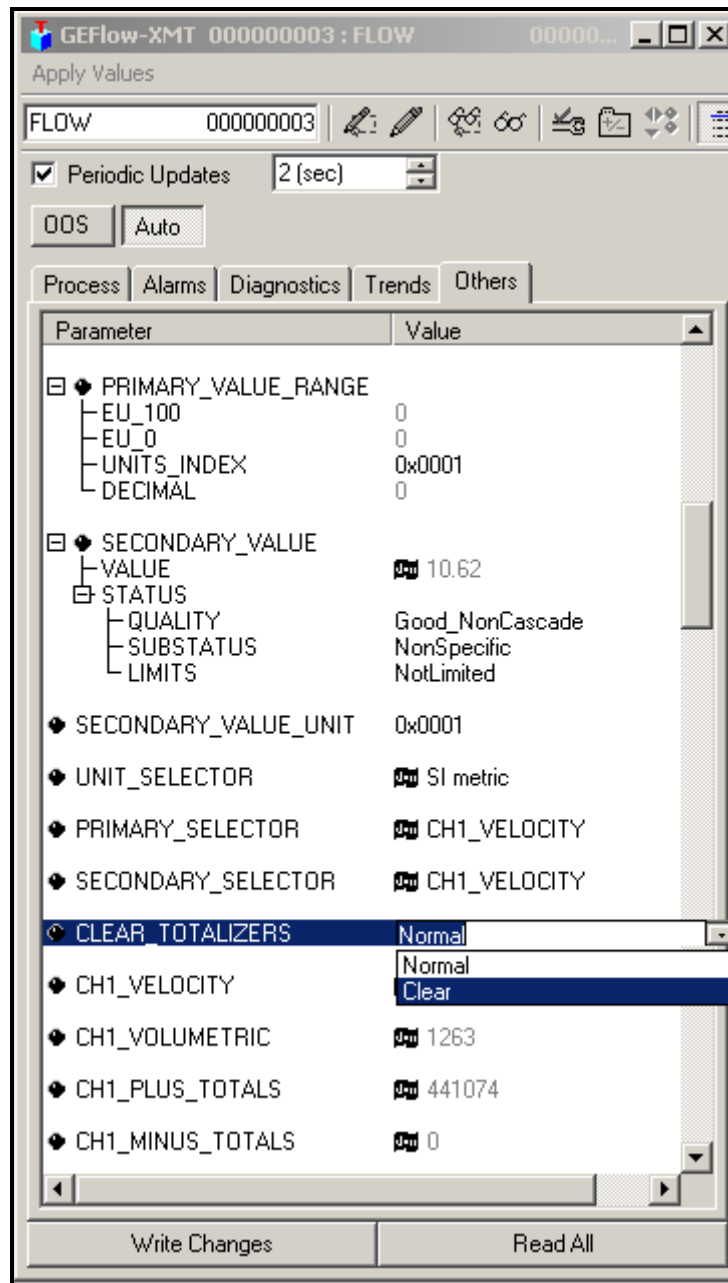

Figure 40: Clear Totalizers Drop Down List
3. Select **Clear** from the drop down list box (see Figure 40).